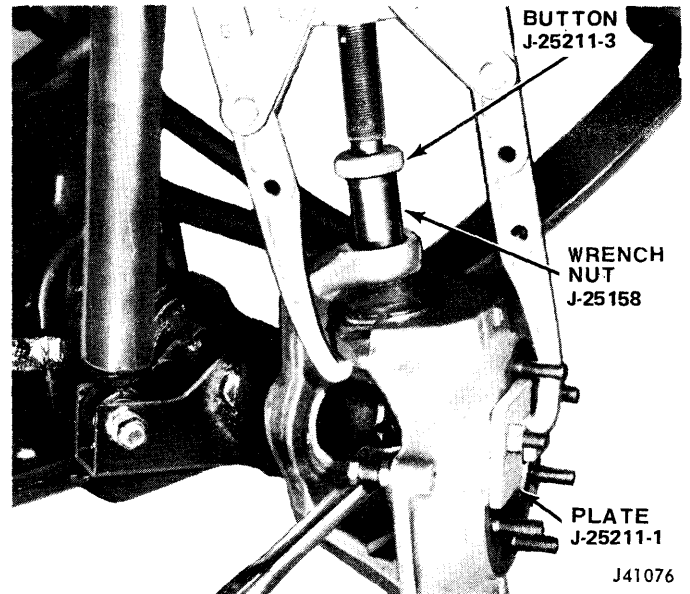

Fig. 10-11 Steering Knuckle Installation
- (1) Install upper ball stud seat into axle yoke. Top of stud seat should be flush with top of yoke.
- (2) Install knuckle assembly onto axle yoke. Install lower stud nut. Hand-tighten nut only. Position and align Nut Wrench J-25158, Button J-25211-3, Plate J-25211-1, and Puller J-25212 (fig. 10-11). Tighten puller screw until lower ball stud is held firmly in its seat. Tighten lower stud nut to 75 foot-pounds torque (85 foot-pounds torque on CJ models). Remove puller and plate.